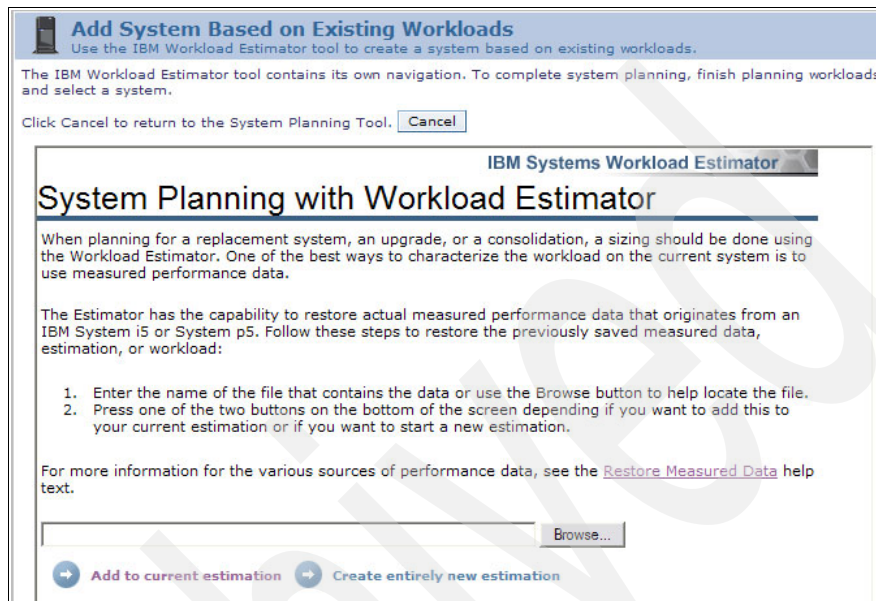

Figure B-26 Selecting WLE model in SPT
2. The Add System Based on Existing Workloads window opens and offers you an option to browse to your saved workload, as shown in Figure B-26. Click the **Browse** button and select your saved WLE file.